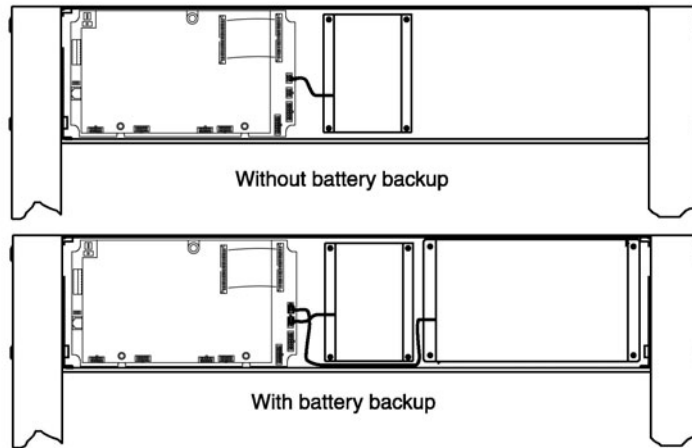

FIGURE 6-1
6. Disconnect the power supply module connector from the controller circuit board. (See Figure 6-1)
7. Reconnect the power supply and battery pack modules. (See Figure 6-1)